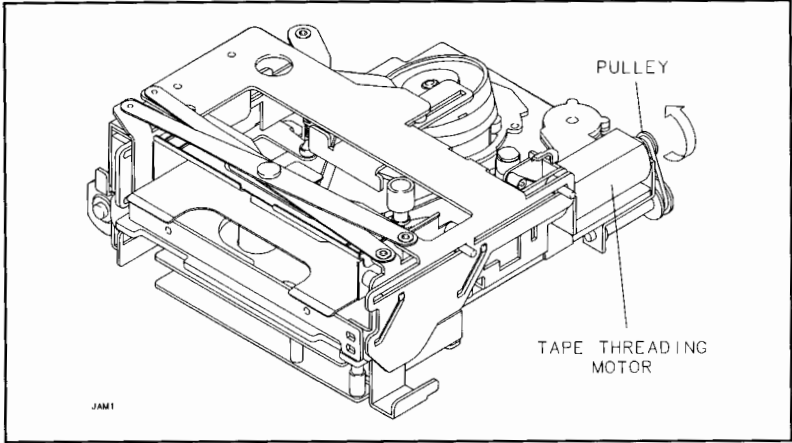

Figure 5-11. Manually Unthreading a DAT Tape
- a. Locate the pulley on the tape threading motor. See Figure 5-11.
- b. Turn the pulley in the direction indicated in Figure 5-11. The tape guide rollers will begin to slowly retract toward the front of the DAT drive.
4. Remove the belt from the pulley on the tape threading motor. See Figure 5-11.